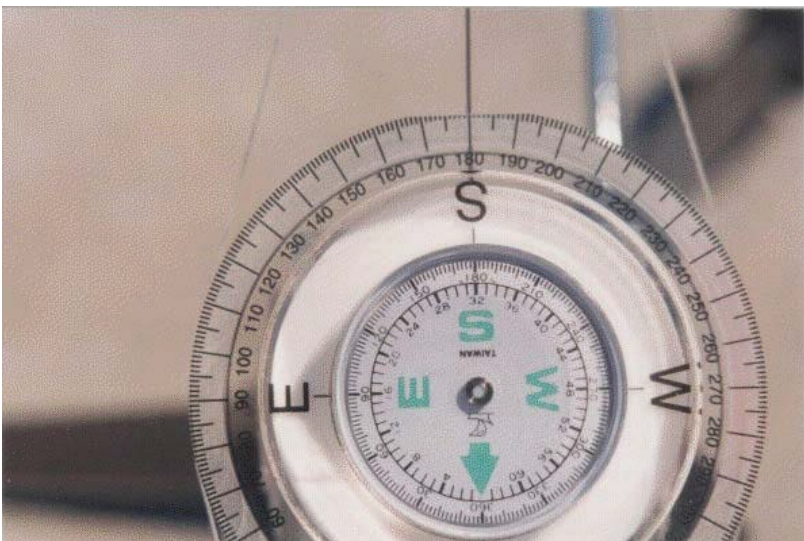

Fig. 4
- (5) Now align azimuth pointer and azimuth dial with compass as shown in Fig. 4.